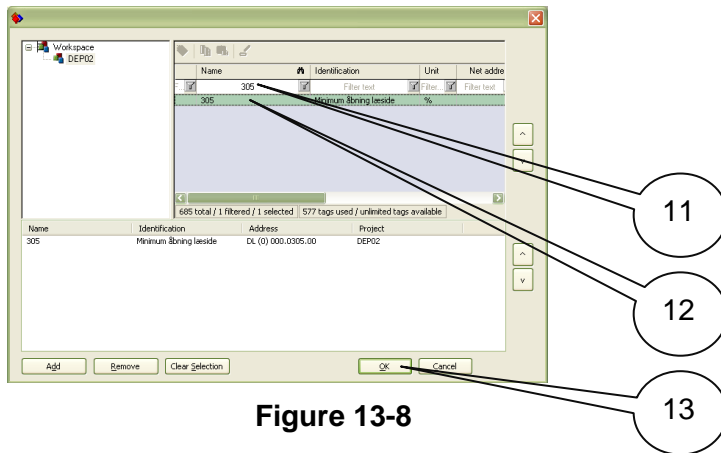

Figure 13-8
3. These codes must be in the list below. Look **Figure 13-8** at page 26 if you want to read about how to do that. Click "OK".
Here is Recipe_2 with 5 codes added. Click the "Add variable" button if you want more codes in this recipe. Filter and selection are like described at **Figure 13-8** at page 26.
Chose the set points you want to use in your PCE project. Filtering and selection is like described by Figure 13-8 at page 26. It's possible to add more set points later on by clicking "Task variables" in the context menu. Finish by clicking the "OK" button.